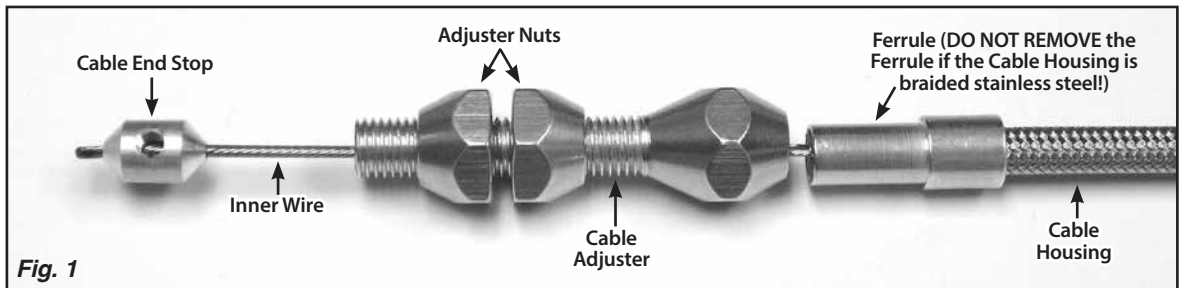

Fig. 1
Step 1: ALL: Remove the cable end stop and cable adjuster from the end of the inner wire. If the Release Cable has a black universal housing, remove the ferrule. If it has a stainless steel housing, **DO NOT** remove the ferrule. **Fig. 1**